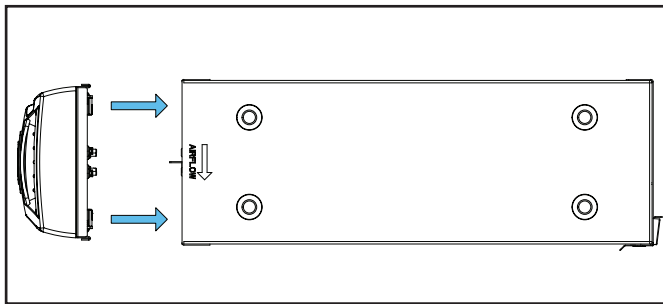

Figure 12 Door Install
**Step 1:** To reinstall the Door Assembly, align door with unit assembly and push towards the unit. See Figure 12.